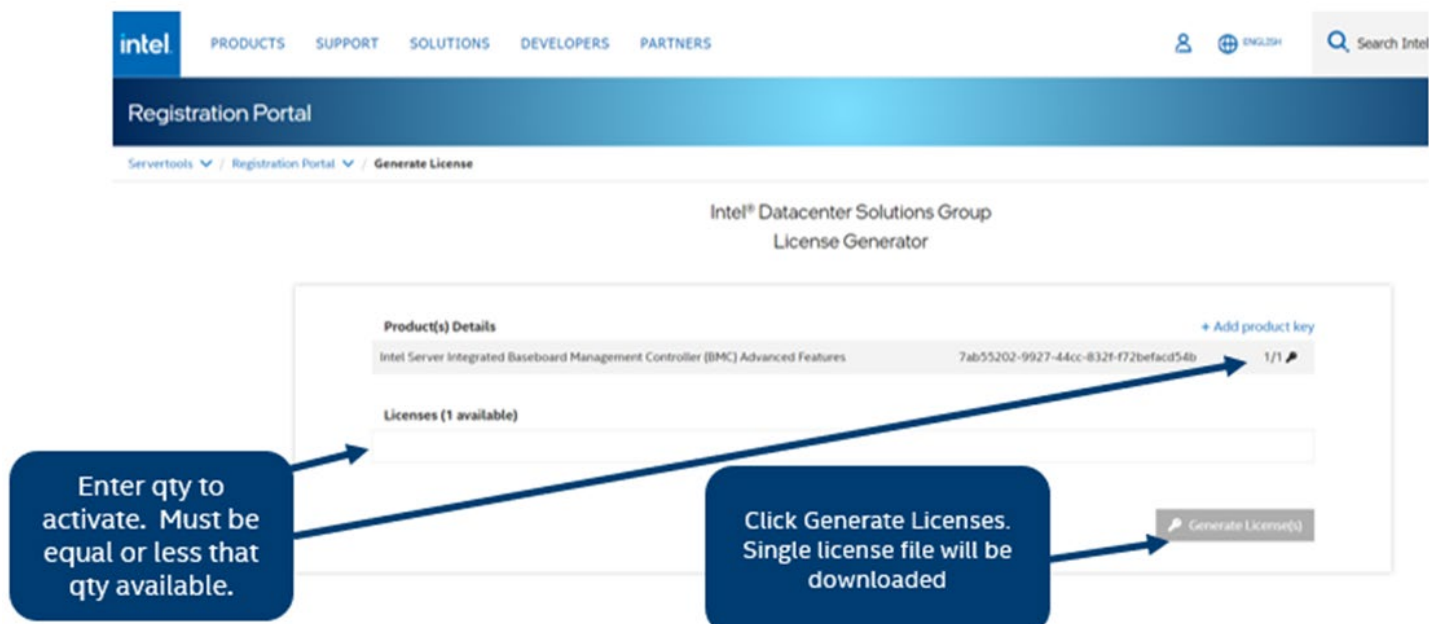

Figure 54. Activate Key for Advanced System Management (ASM) Key
- Enter the number of Advanced System Management (ASM) licenses needed. It must be equal or less that the quantity available displayed on the right corner of the screen. Click on the “Generate License(s)” bottom to download the single license file. (see Figure 54)